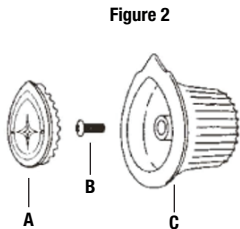

Figure 2
II. Removal of Old Handle - Figures 2, 3
2. If the old handle is a metal lever-style handle, skip to step 3. If the old handle is acrylic, remove the handle index button (A) from the old handle (Fig. 2). Remove handle screw (B) and handle (C) and discard. Go to *Installation of Handle*.